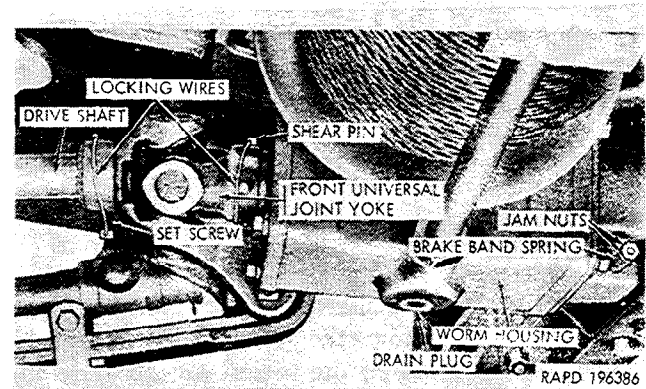

Figure 2-170. Winch—bottom view.
(1) If the drive shaft is equipped with a collar, remove the locking wire from the collar setscrew at the rear universal joint, loosen the setscrew, and slide the collar forward. Later production vehicles are not equipped with a collar, and none is required.
(2) Remove the locking wire (fig. 2-170) from the drive shaft shearpin (fig. 2-170), and remove the shearpin.
(3) Slide the front universal joint yoke (fig. 2-170) toward the rear, far enough to clear the wormshaft.
(1) Remove the outer jamnut (fig. 2-170) from the brake band end.
(2) Insert a long punch through the shearpin hole in the wormshaft. Oscillate the shaft with the punch, and at the same time tighten the inner jamnut on the brake band end until a noticeable drag is felt when the wormshaft is rotated in one direction.
(3) Hold the inner jamnut, and install the outer jamnut. Tighten the outer nut to hold the adjustment.
(1) Remove the punch from the shearpin hole in the wormshaft and position the universal joint front yoke on the wormshaft, aligning the shearpin holes. Install the shearpin and secure with locking wire (fig. 2-170).
(2) If the drive shaft is equipped with a collar, position the collar to provide $\frac{3}{8}$ -inch clearance between the collar and the front end of the drive shaft rear universal joint yoke, tighten the collar setscrew, and secure with locking wire.
(2) Remove the locking wire from the shearpin (fig. 2-170), and remove the shearpin. Push the shaft and assembled parts to the rear, and remove the front universal joint yoke (fig. 2-170) from the wormshaft.
(3) Remove the 10 bolts and lockwashers that secure the winch brackets to the frame side rails and front bumpers, and raise the left side of the winch sufficiently to permit removal of the drive shaft.
(4) Pull the shaft forward to disengage the splined end of the shaft from the front yoke of the rear universal joint, and remove the shaft. Remove the collar (if so equipped) as the shaft is removed.
(5) Remove the locking wire from the setscrew in the rear universal joint yoke, loosen the setscrew, and remove the universal joint from the power-takeoff. Remove the woodruff key from the
(1) Install a No. 817 or 127 woodruff key in the keyway at the front end of the drive shaft. Install the rear yoke of the front universal joint on the shaft, alining the keyway in the yoke with the key. Install the setscrew, tighten, and secure with locking wire (fig. 2-170).
(2) Install the rear universal joint on the power-takeoff drive shaft in the manner described in c(1) above.
(3) Apply a light coating of automotive and artillery grease to the splines of the drive shaft. With the winch raised as in a(3) above, insert the splined end of the shaft through the opening in the frame reinforcement from the front. Install the collar on the shaft (if so equipped), and insert the shaft in the front yoke of the rear universal joint, alining the journals of both universal joints. Push the shaft and assembled parts toward the rear.
(4) Lower the winch into position, and aline the front universal joint front yoke with the wormshaft. Install the yoke on the wormshaft, alining the shearpin holes. Install the shearpin and secure it with locking wire.
(5) Install six lockwashers and bolts for the winch frame brackets and four lockwashers and bolts for the bumper brackets. Tighten the bolts evenly.
(6) If the drive shaft is equipped with a collar, position the collar to provide $\frac{5}{8}$ -inch clearance between the collar and the front end of the universal joint yoke; tighten the collar setscrew, and secure it with locking wire.